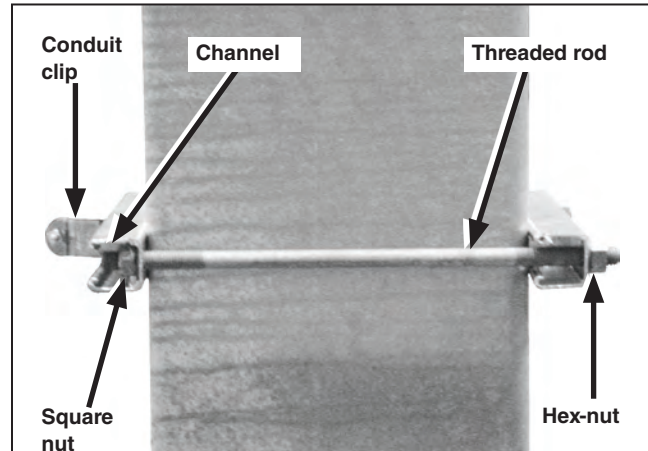

Figure 43. Install the conduit hangers.
- (c) Align the brackets with the marks, and bolt them to the pedestal with the two $\frac{5}{8}$ -inch threaded rods, square nuts, hex nuts, and washers furnished. Inserting the square nuts inside the same channel as the conduit clip will prevent the nut from rotating during installation. Figure 43.